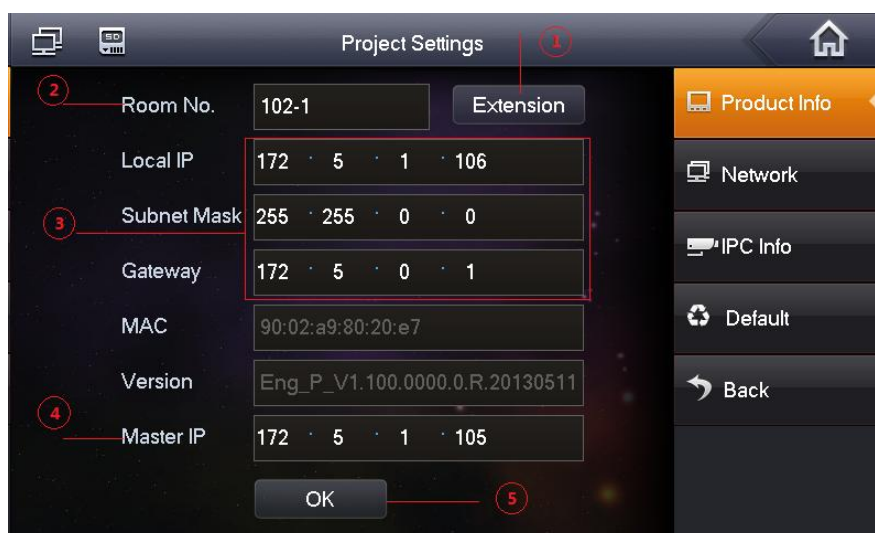

Figure 3-3
Step3 Filled Master IP address, point OK to save it. After setting up, Sub-indoor Monitor will automatically synchronize with the Outdoor Station of main Indoor Monitor without other configuration. See figure 3-3